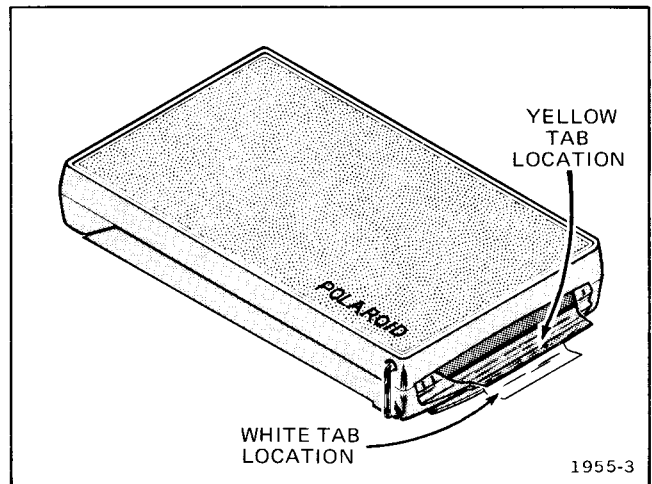

Fig. 2-5. Location of positive and negative sheet tabs.
6. While holding the camera back, pull the black paper leader all the way out. This will expose a white tab (Fig. 2-5) and the camera back is now ready for the first picture. As pictures are taken, the number of the negative ready for exposure is indicated by the number on the white tab.
1. After taking the picture, pull the white tab, (Fig. 2-5) all the way out. This does three things: First, it positions the positive and negative sheets together; second, it causes the yellow tab (marked PULL) to pop out; and third, it causes another white tab to appear.
2. Pull the yellow tab (Fig. 2-5) completely out in one smooth, fairly rapid motion (pull about as hard and rapidly as you might pull a window shade; not slowly and hesitantly). This causes the positive and negative sheets to be pulled between and through the processing rollers, which spreads the developing solution between the two sheets and starts the development process.